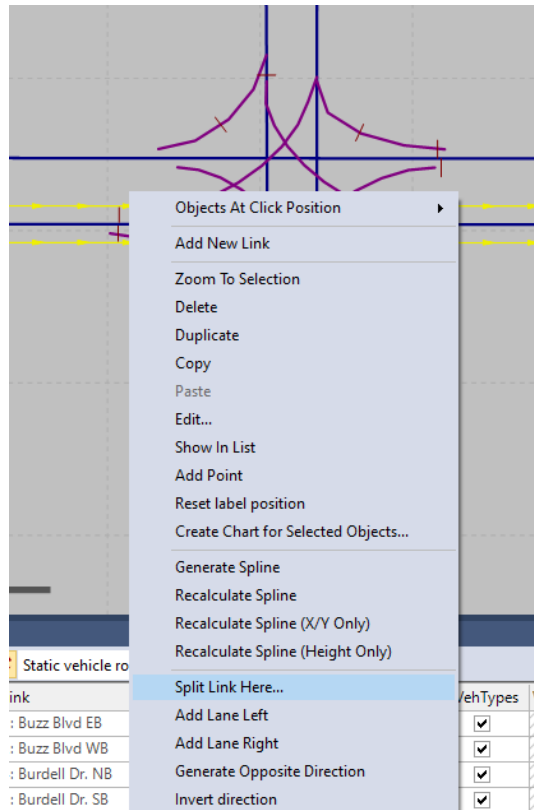

Figure 23: Split Link function
- Select *Split Link Here.... Figure 23*.